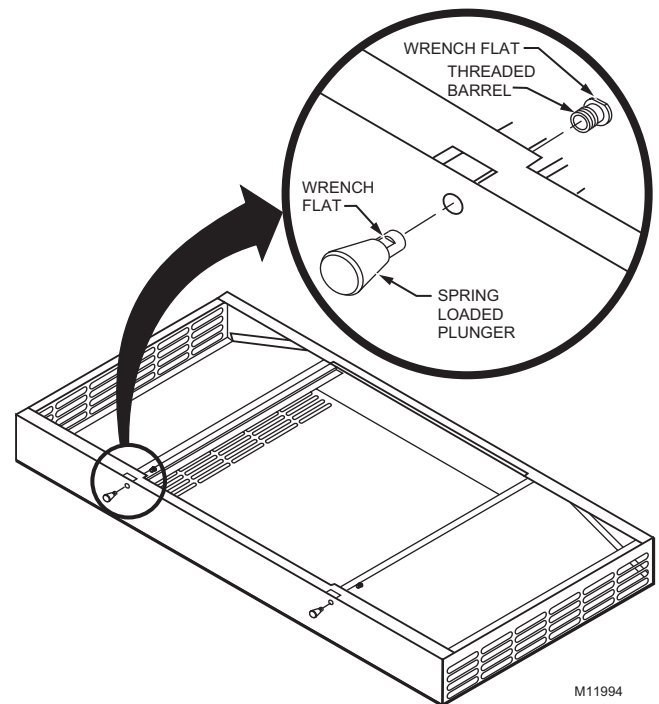

Fig. 6. Lid assembly.
1. Pull the plunger back and twist a quarter turn to reveal the wrench flat on the body of the spring loaded plunger (see Fig 6.)